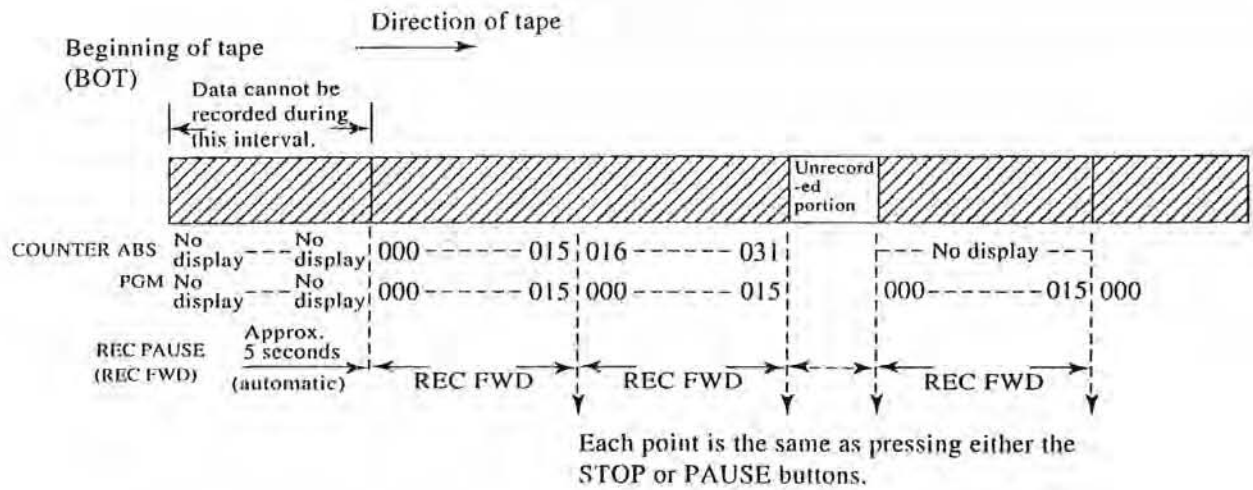

Fig. 3
- b) When REC PAUSE (REC FWD) is performed at BOT, the tape runs automatically for approximately 5 seconds without any display. (Fig. 3)
- d) A continuous counter value is recorded when continuous recording is made in the ABS mode. If unrecorded tape is used. The counter ABS value disappears after continuous recording stops. (Fig. 3)